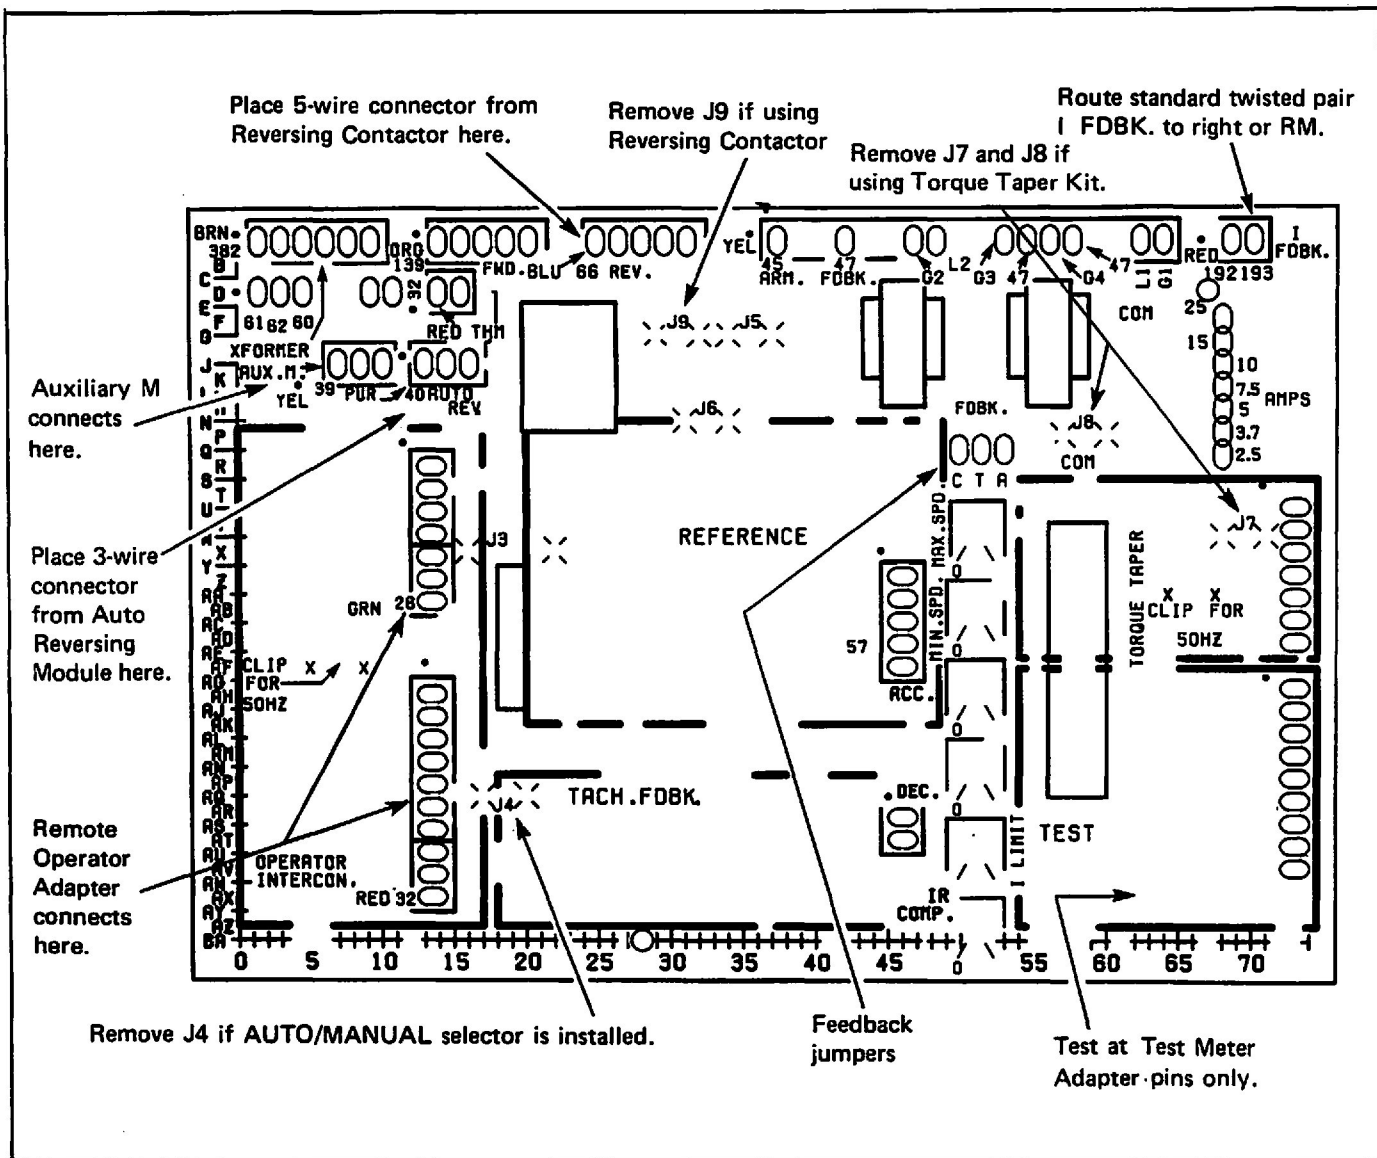

Figure 6.4 — Regulation Module Screen
**Step 1** — Refer to Figure 6.4 and note the heavy border area at the extreme left-hand side of the Regulator Module. This is the area where the Switch Receiver Module is to be mounted. First, remove the Remote Operator Adapter Module. Then, place the Switch Receiver Module in the proper orientation so the two connectors are aligned over the two sets of pins (marked GRN 28 and RED 32). Carefully, slowly and gently press the connectors down on the pins until they bottom. Then, connect the black pig-tail jumper of the Switch Receiver Module to pin 40 on the Regulator Module. (Pin 40 is the left-hand pin of the group marked AUTO REV.)
**Step 5** — Refer to Figure 6.4 and note the heavy border area in the center of the Regulator Module marked REFERENCE. This is the area where the Reference Receiver Module is to be mounted. Place the Reference Receiver Module in the proper orientation so the pin guides on the Module are aligned over the set of five pins on the Regulator Module. Lower the Reference Receiver Module so the pins pass through the pin guides and the mounting spacer seats in the mounting hole. (It may be necessary to remove a protective plastic cap from the pins.) Secure the Module with the supplied screw.
**Step 2** — Orientation of the harness connectors is important. Place the left harness connector over the Regulator pins marked FWD with the orange (139) wire with the pin called out as ORG 139. Place the other harness connector over the Regulator pins marked REV with the blue (66) wire with the pin called out as BLU 66. (Refer to Figure 6.4.)
- Figure 6.4 which is a copy of the screen used to mark the Regulator Module. It is useful in identifying locations on the board. Note that areas where optional Modification Kits fit are marked with heavy lines.